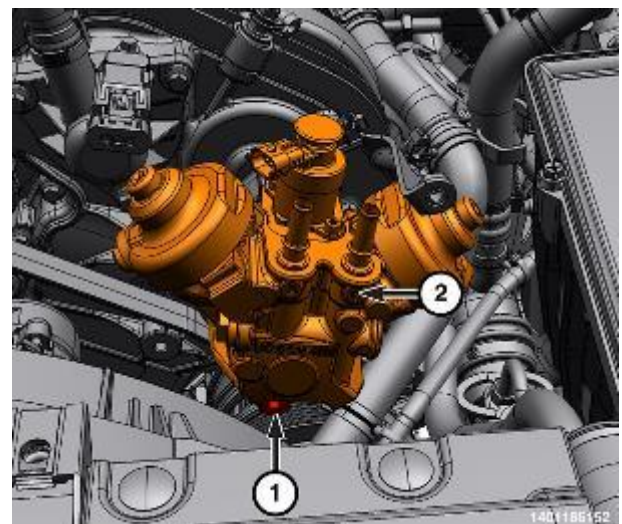

Figure 201 – HPFP Lower Bolt
- 47. Install the fuel injection pump and hand tighten the lower bolt (Figure 201).